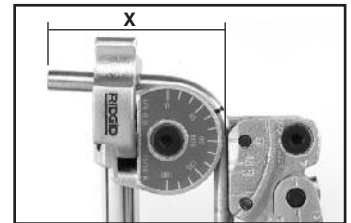

Figure 7 – After
- With the mark on the tube appropriately aligned, move the Carriage so that the “0” Line aligns with the 90 degree line on the Form. (See Figures 7 and 9 – After).